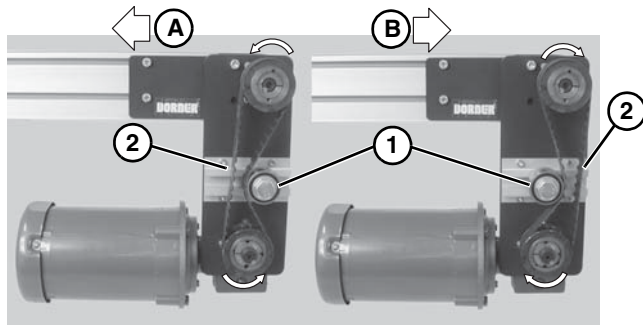

Figure 10
- Depending on conveyor belt travel (direction A or B), locate timing belt tensioner (**Figure 10, item 1**) as shown. Tension timing belt to obtain 1/8" (3 mm) deflection for 6 lb (3 Kg) of force at timing belt mid-point (**Figure 10, item 2**). Tighten tensioner screw to 110 in-lb (12 Nm).